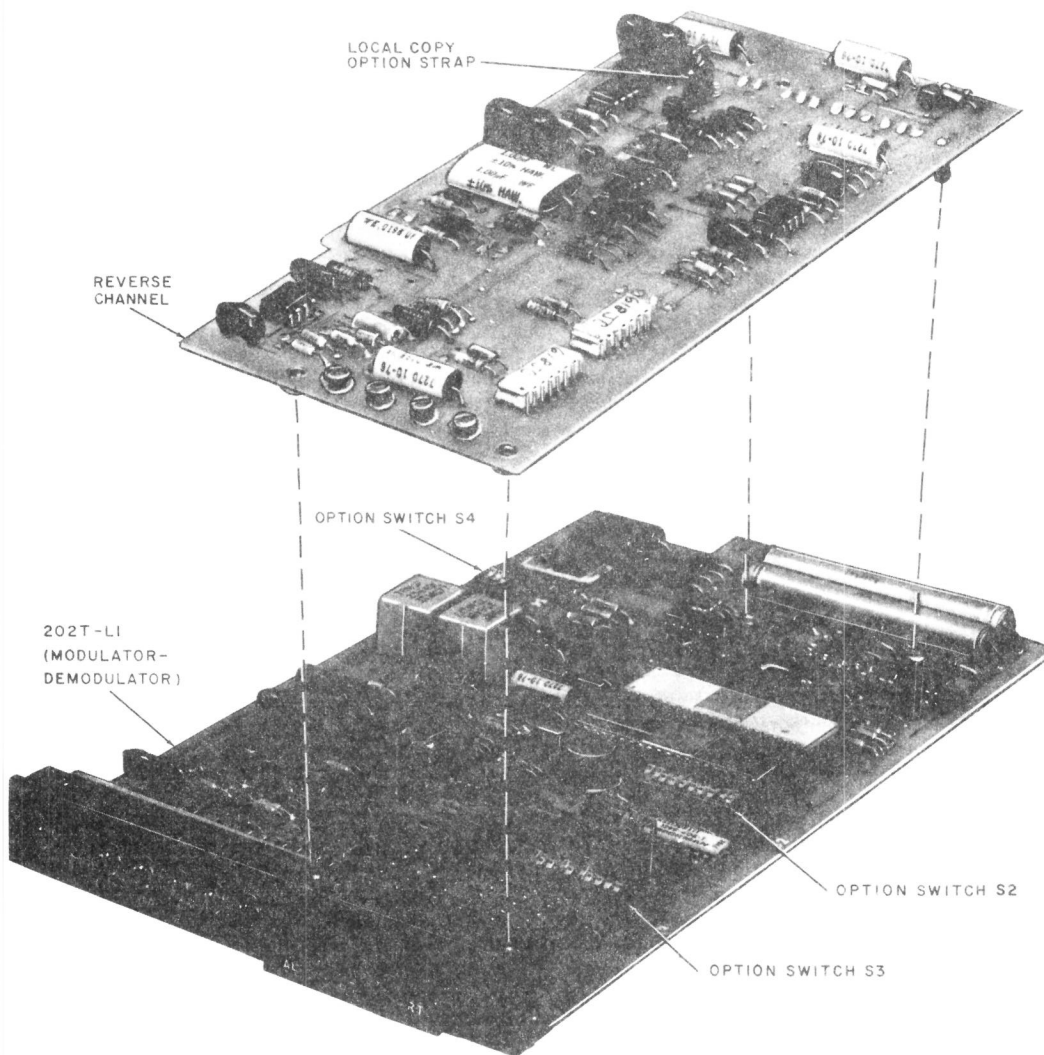

Fig. 2—Data Set 202T-L1A/3B
**2.02** Data set 202T-L1 or 202T-L1A is contained on a printed circuit wiring board (Fig. 2). There are three test switches and six status indicator lamps on the faceplate of the printed circuit wiring board.
**2.10** Data set 202T-L1/3 (Fig. 2), 202T-L1/3A or 202T-L1A/3B provides everything provided by list 1 plus a reverse channel circuit pack (JY1, JY2, or JY4). This circuit pack is a printed wiring board measuring 1 inch high, 3.4 inches wide, 7.5 inches long, and weighing 0.5 pounds. It includes the filters, switching circuits, and demodulator circuits needed to perform the reverse channel function. Interconnection to the data set is accomplished by 20 female contact receptacles mounted on the bottom of the reverse channel circuit pack. This circuit pack mounts on contact posts on the data set and covers switch assemblies S2 and S3. The circuit pack must be removed when installing or removing options.